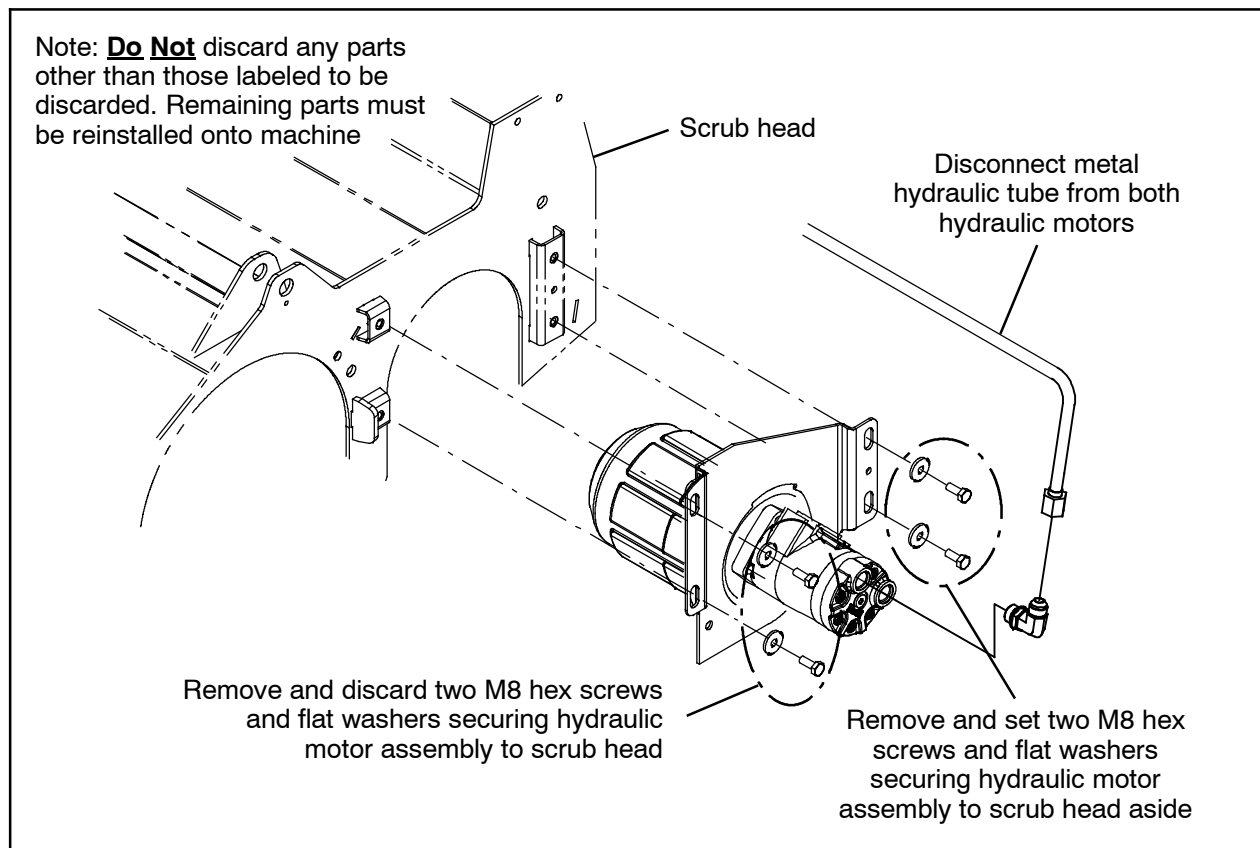

FIG. 4
11. Disconnect the metal hydraulic tubes from both hydraulic drive motors. (Fig. 4)
12. Remove the four M8 hex screws and flat washers securing the hydraulic drive motor to the main scrub head and carefully set the hydraulic drive motor on the floor, away from the main scrub head. Discard the two M8 hex screws and flat washers. Set two M8 hex screws and flat washers aside. (Fig. 4)